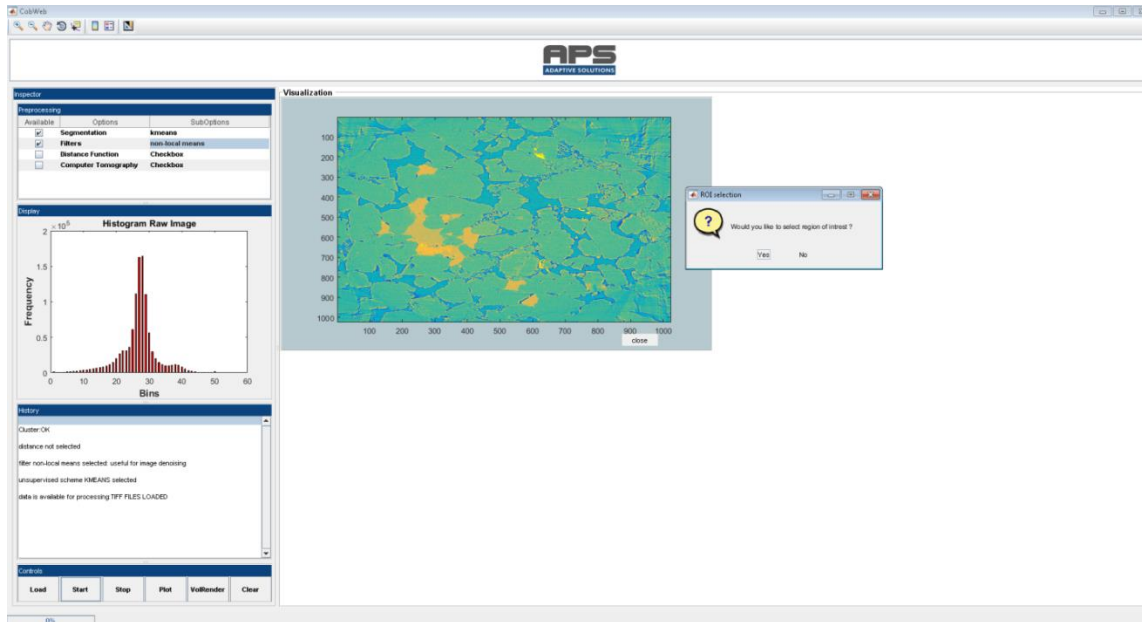

Figure 21: ROI selection pop-up menu
- Figure 21: ROI selection option pop-up
- This is done by **closing the pop-up window** in Figure 21